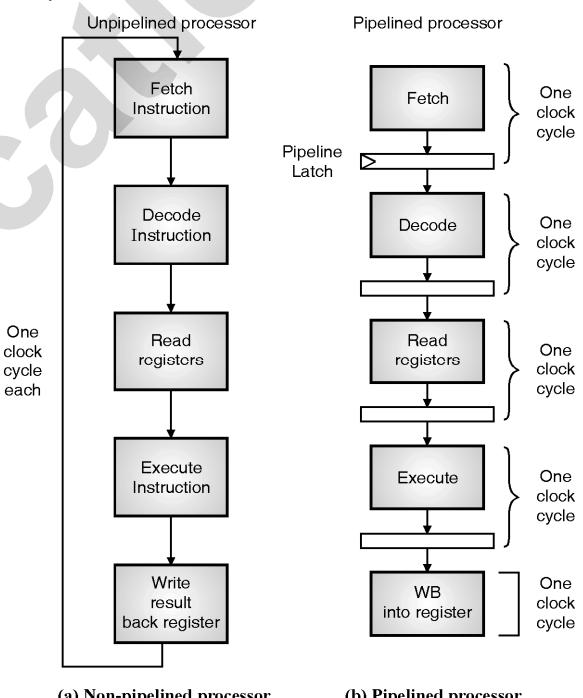

Fig. 10.8.1
- As shown in Fig. 10.8.1, at start of each cycle, the pipeline latches read their inputs and copy them to their outputs.
- A **five-stage pipeline** is shown in Fig. 10.8.1(b).